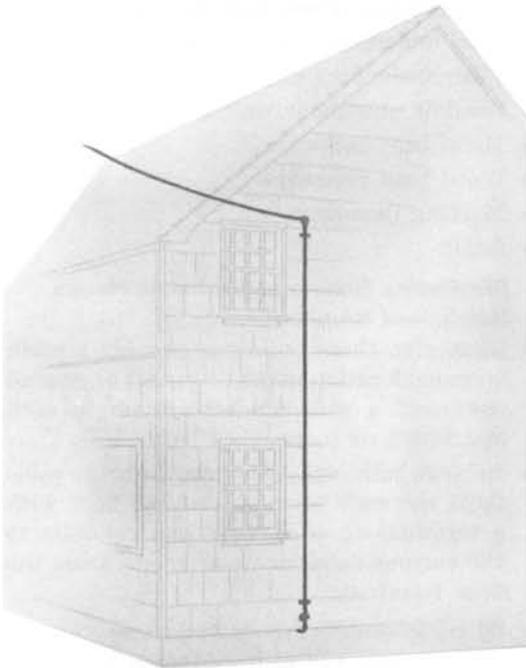

Fig. 5 – Typical Drop Run
- Locate preferably on the rear and side walls of a building (see Fig. 5).